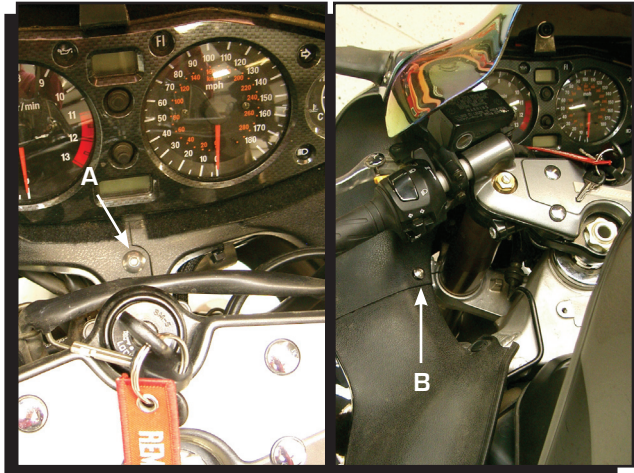

Figure 3 Dash Screw Removal.
3. Remove the two 4mm screws from the center dash (A) and from the side dash (B) as shown in Figure 3.